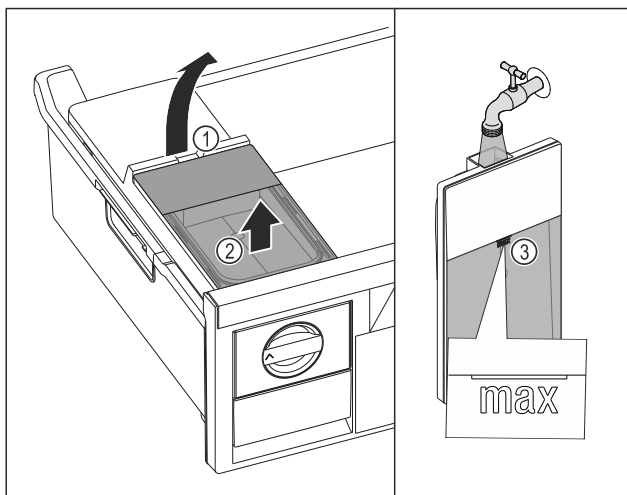

Fig. 180
- Lift the water tank at the recess Fig. 180 (1).
- Remove the water tank by lifting it upwards. Fig. 180 (2)
- Fill the water tank with drinking water up to the mark Fig. 180 (3).